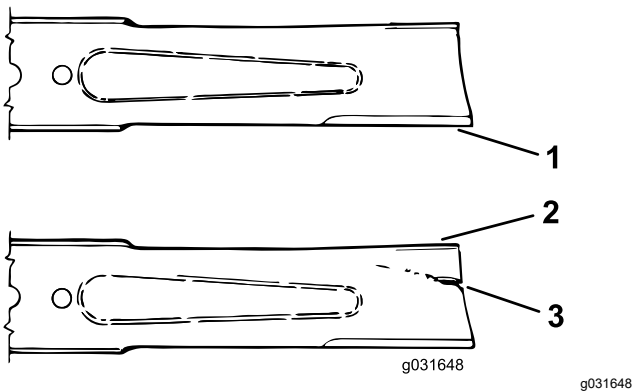

Figure 73
- Examine the cutting ends of the blade carefully, especially where the flat and curved parts of the blade meet (Figure 73).